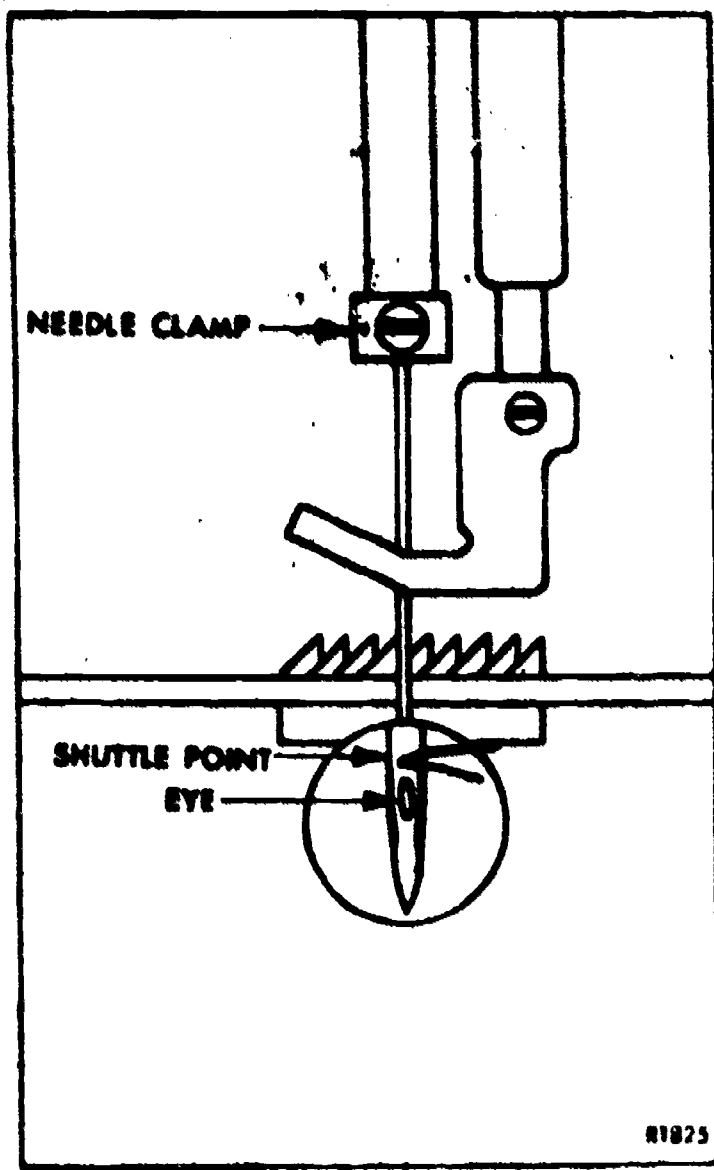

Figure 25. Shuttle Point Positioned 1/16 Inch Above the Needle Eye.
4. If the shuttle point is not 1/16 inch above the eye of the needle (figure 25), remove the faceplate, loosen the screw in the needle bar connecting stud and move the needle bar up or down to correct the position. Secure the screw and replace the faceplate.